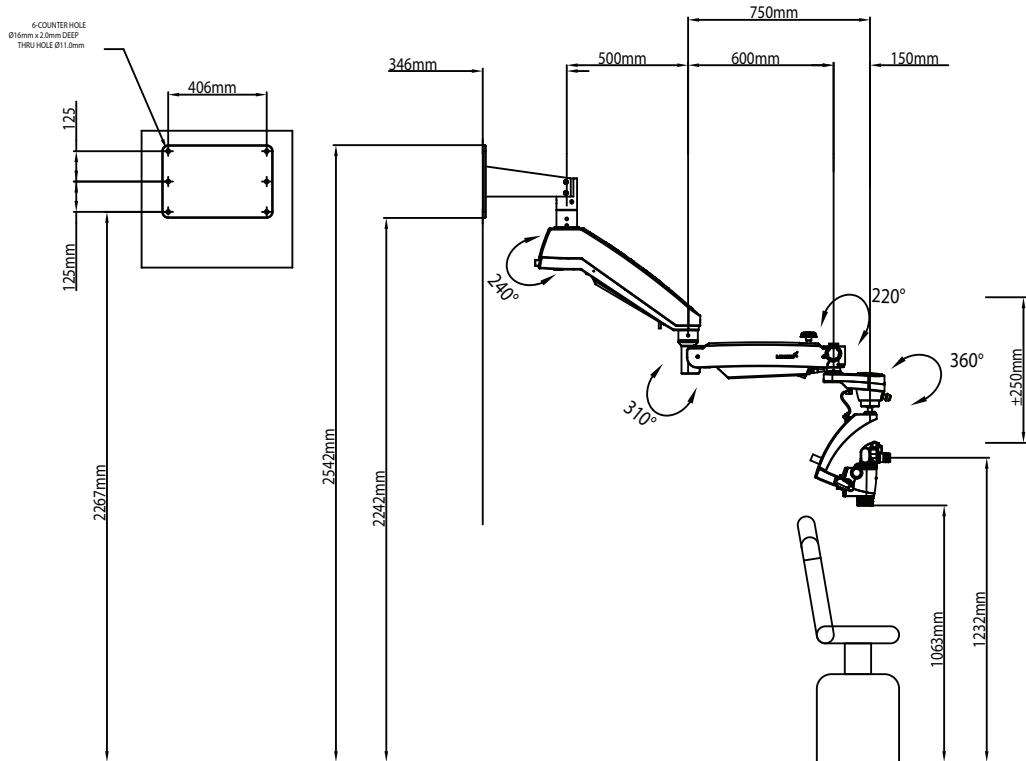

Figure-21
- C Distance from Floor- Refer suitable height as per ordered configuration from figure-21 or 22